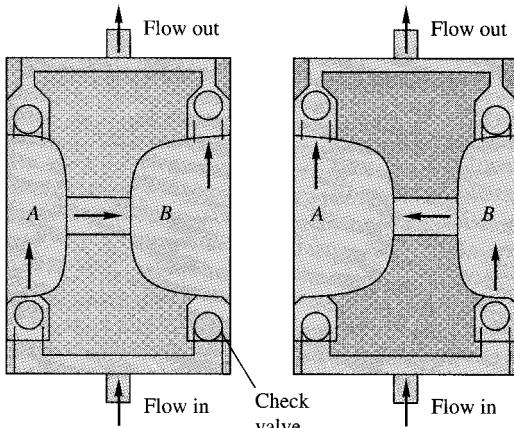

Fig. P11.6
**11.6** Fig. P11.6 shows two points a half-period apart in the operation of a pump. What type of pump is this? How does it work? Sketch your best guess of flow rate versus time for a few cycles.